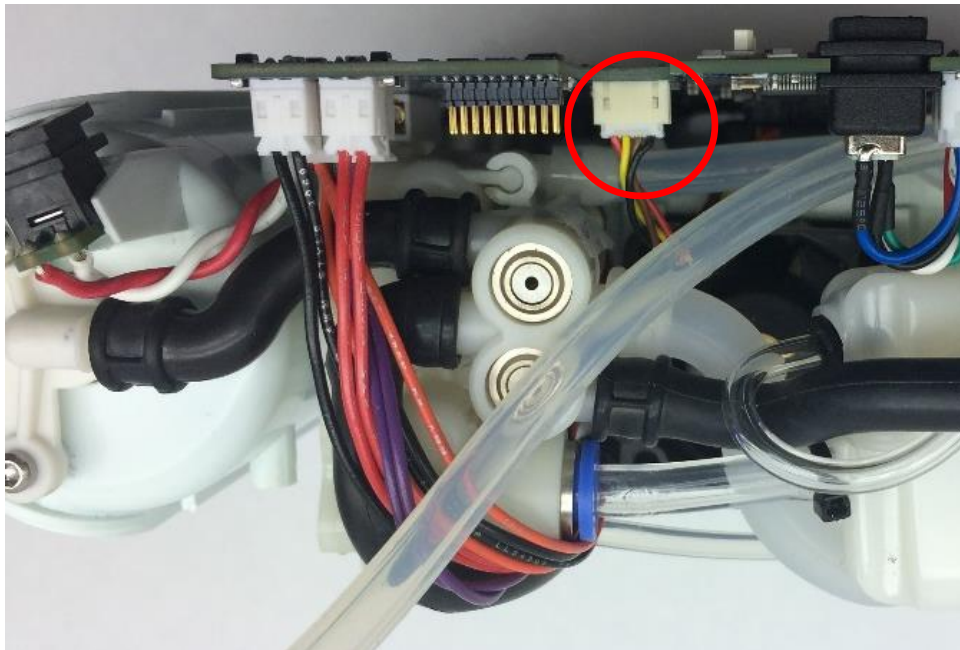

Figure 5: Location of fan connector on motherboard
1. Unplug the fan cable from the motherboard. *Use pliers if necessary* (Figure 5).
2. Route the harness under the Inlet tube and plug the cable back into the motherboard, assuring proper connection by gently pulling on the cable (as shown in Figure 5.)